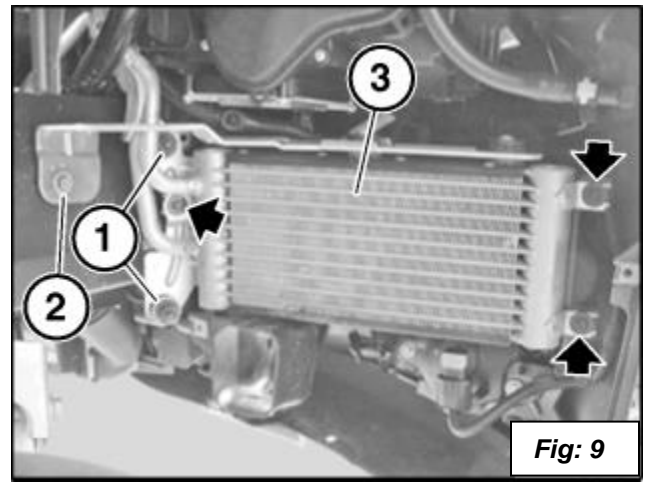

Fig: 9
13. Remove the three screws marked with arrows that hold the duct to the oil cooler (3). See figure 9.
14. Remove the bolt (1) and the nuts (2) and save for installing on the new oil cooler. You will also need the rubber mounts and top bracket and will remove them in step 23. See figure 9.